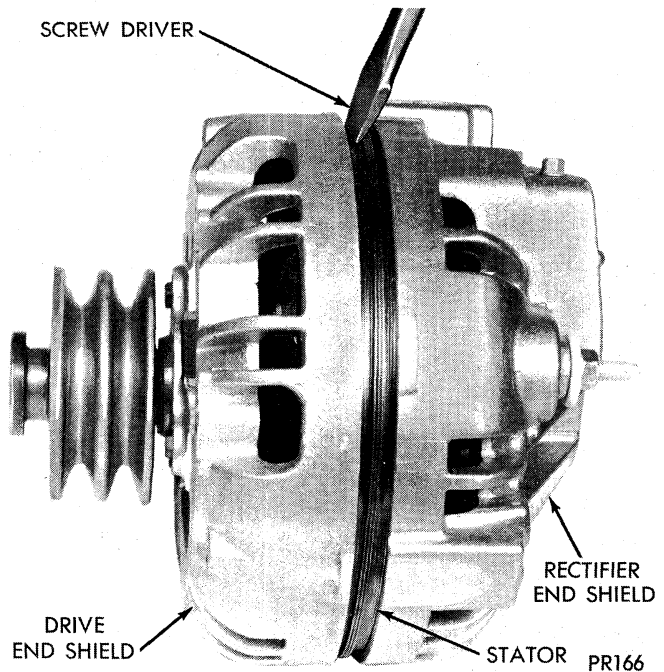

Fig. 13—Separating Drive End Shield from Stator
(2) Remove through bolts and pry between the stator and drive end shield with blade of a screwdriver (Fig. 13). Carefully separate drive end shield, pulley and rotor assembly away from stator and rectifier end shield assembly.